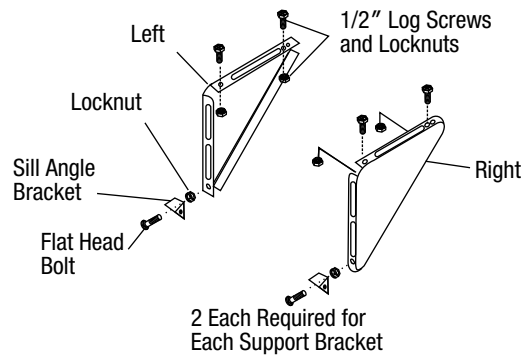

FIG. 15B
2. Assemble sill angle bracket to support brackets at the marked position. (See Fig. 15B.) Hand tighten, but allow for changes later.